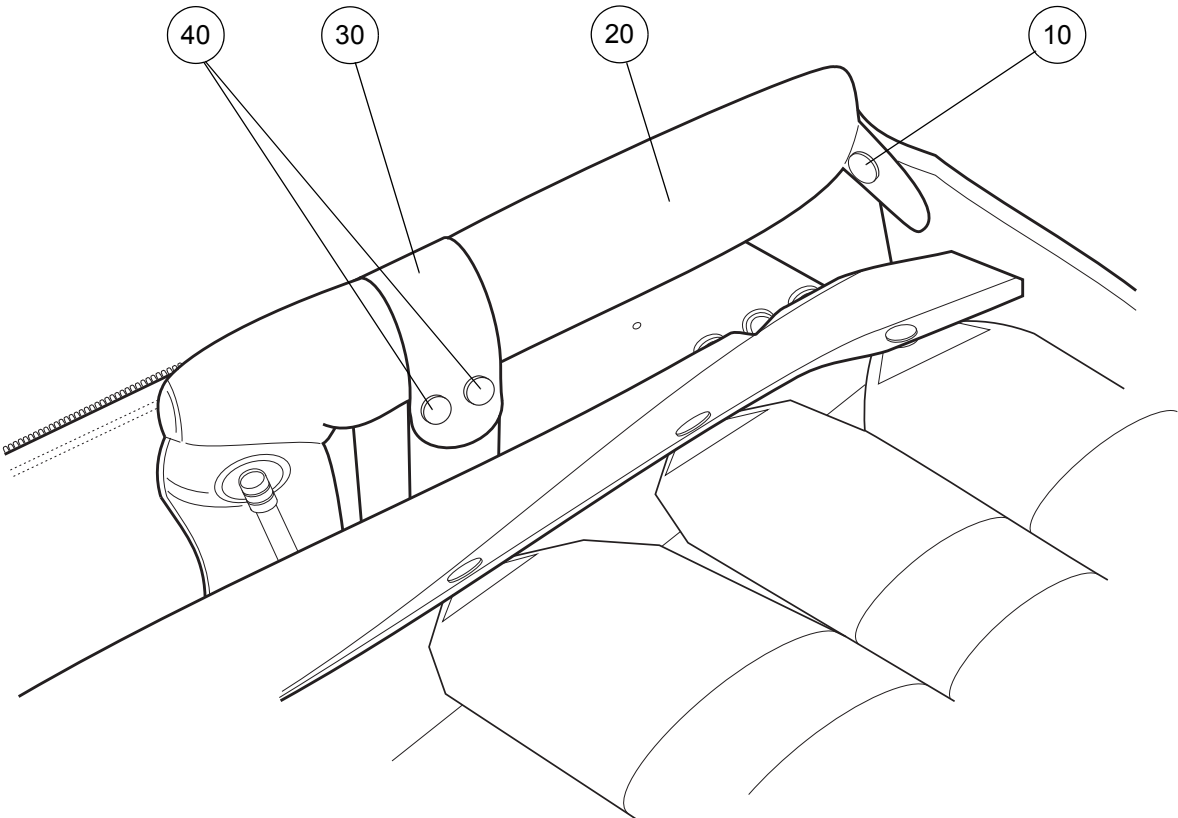

Figure 27 - Disconnecting the Heel Protector
- 4.2 Unclip the pop stud (Fig 27, Item 10) from the heel protector (Fig 27, Item 20) at the foot end of the bed.
- 4.3 Pull the heel protector (Fig 27, Item 20) out of the loop (Fig 27, Item 03) and unclip the two pop studs (Fig 27, Item 40).